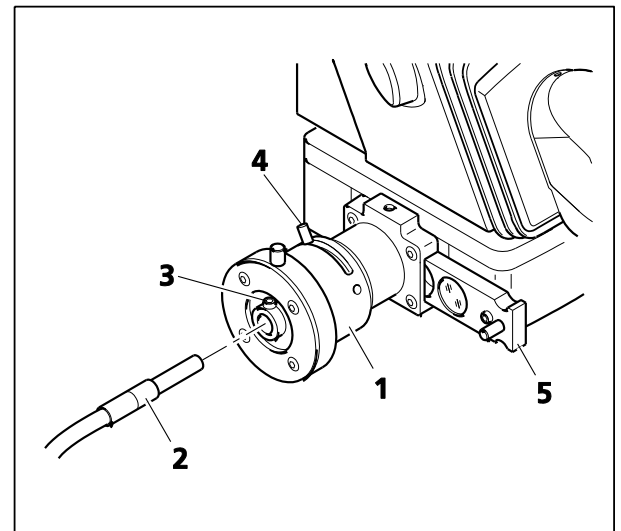

Fig. 17 Connecting the optical fiber of the X-Cite illuminator to the PentaFluar S/X-Cite
Make sure the light source is switched off or the shutter slider (Fig. 17/5) pulled out.
- Undo clamp screw (Fig. 17/3) for optical fiber on the mounting port (Fig. 17/1) of the PentaFluar S/X-Cite vertical illuminator using the SW 1.5 mm offset Allen key.
- Push the optical fiber (Fig. 17/2) as far as it will go into the mounting port and clamp the clamp screw (Fig. 17/3) using the SW 1.5 mm key.
- Lever (Fig. 17/4) serves to open and close the iris diaphragm.
- The shutter and filter slider (Fig. 17/5) has three functional positions: